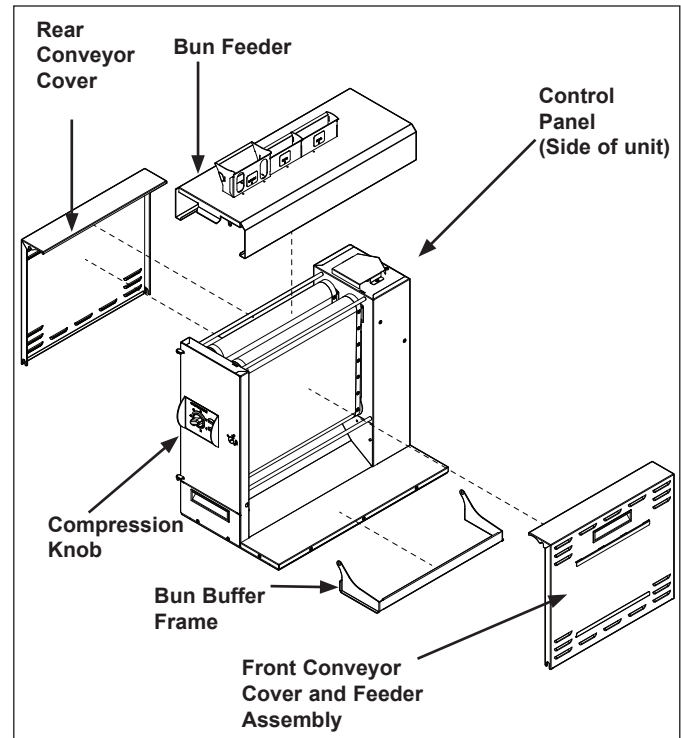

Figure 1. GST-3V Components
2. Attach the Bun Feeder, Bun Buffer Frame, and Crown\Heel Separator accessories (Figure 1.)